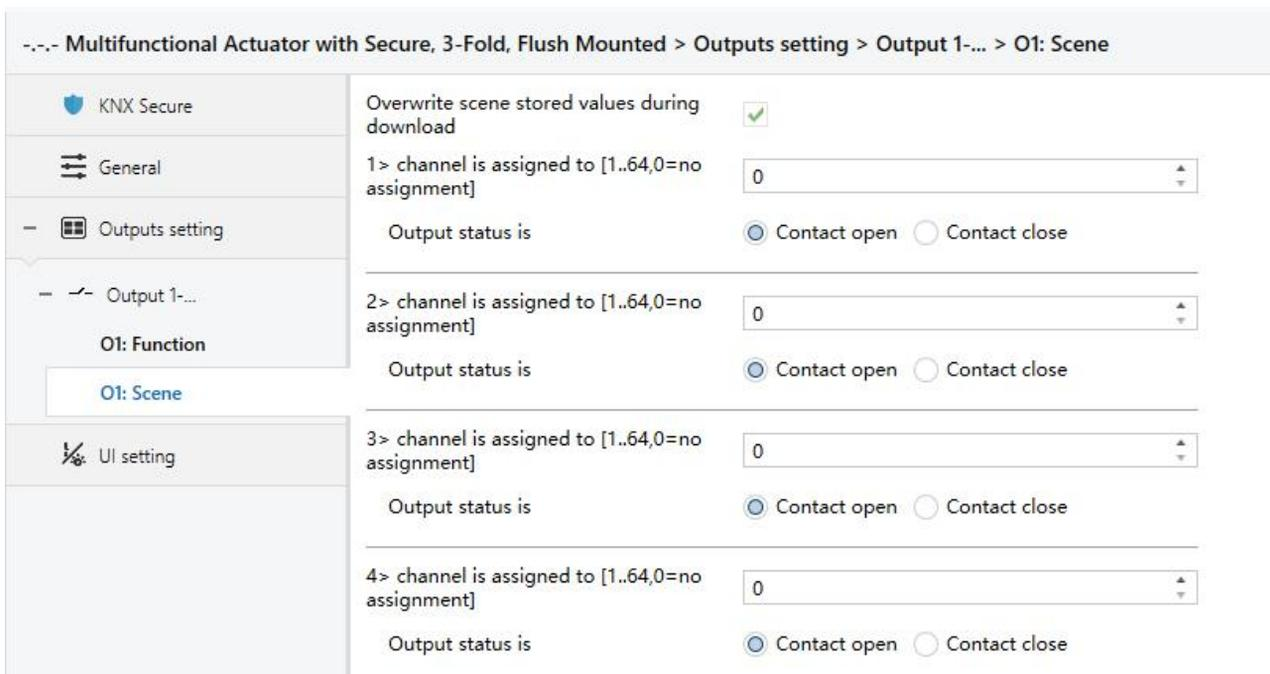

Fig. 4.4.4 Parameter window "Output X: Scene"
The parameter window "Output X: Scene" setting interface shown in Fig. 4.4.4 will be visible when selecting "enable" in "Function of 'Scene'" in Fig. 4.4.(2) Here can set 8 scenes.